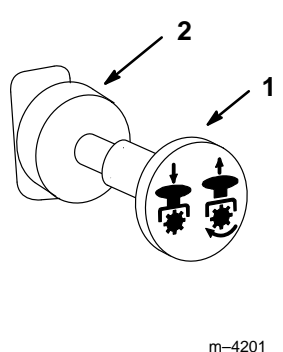

Figure 3
3. Move the PTO (power take off) to “OFF” (Fig. 3).
2. Move the PTO (power take off) to “OFF” (Fig. 3).